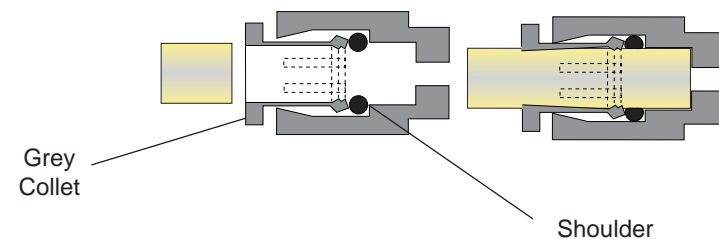

Figure 1
3. While making sure the adjustable collet is loose, install the elbow and the new filter onto the condenser outlet. This is done by pushing the elbow straight into the condenser outlet tube until it bottoms on the shoulder (approximately 1”). See figure 1.